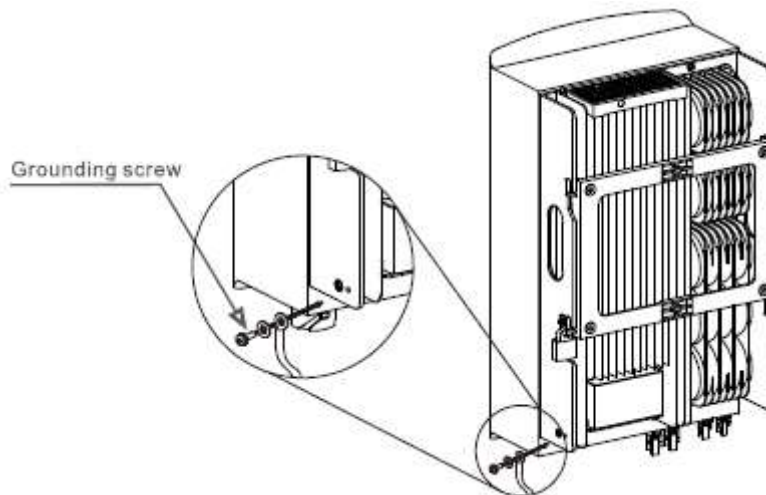
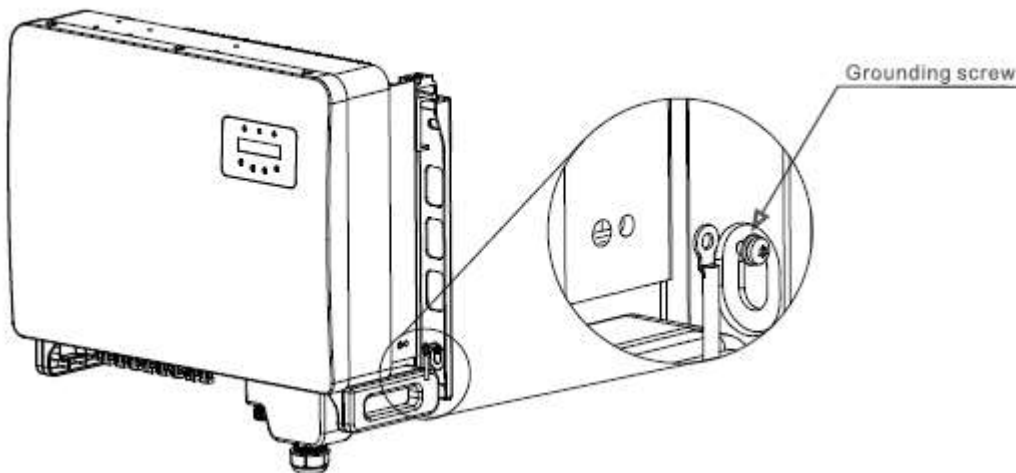

figure 7.9 Fixed cable (5~20kW inverter)
figure 7.10 Fixed cable(25~50kW inverter)
- 2) Connect the grounding cable to the grounding point on the heat sink, and tighten the grounding screw, Torque is 2Nm/5~20kW inverter(see figure 7.9), and torque is 3~4Nm /25~50kW inverter(see figure 7.10);